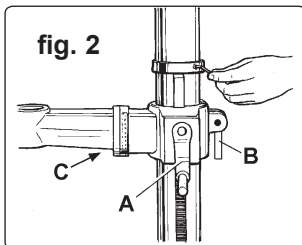

fig. 2
- 5.1.3. Install the rack collar and tighten firmly (fig.2).
- 5.1.4. Install the table adjusting handle (fig.2.A) and pivoted clamp bolt (the longer of the two - fig.2.B).
- 6.2.1. To adjust table up or down, loosen the clamp bolt (fig.2.B) then turn the bracket handle (fig.2.A).
- 6.2.2. To adjust table tilt, loosen the work table bolt (fig.2.C), adjust to the desired angle using the angle scale, then retighten.